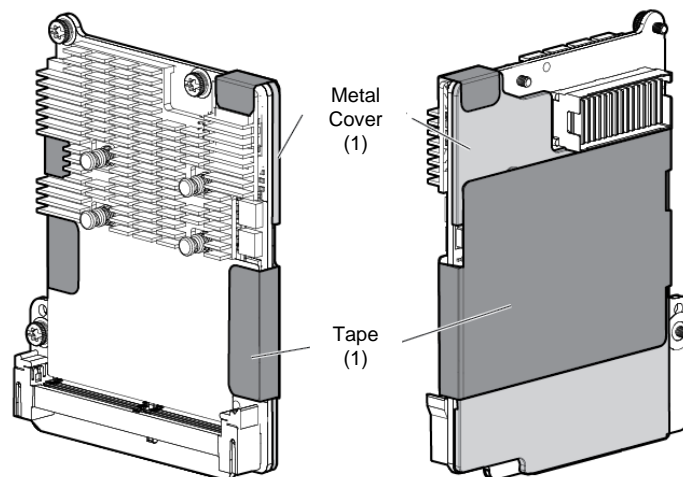

**Figure 3 – P430 Controller**
- b. The P430 and P431 are stand-up cards and are shown in Figure 3 and Figure 4 with the physical security kit installed. The P430 is shown with the required one (1) metal cover and one (1) section of tamper-evident tape. The P431 is shown with the required one (1) metal cover and one (1) section of tamper-evident tape.